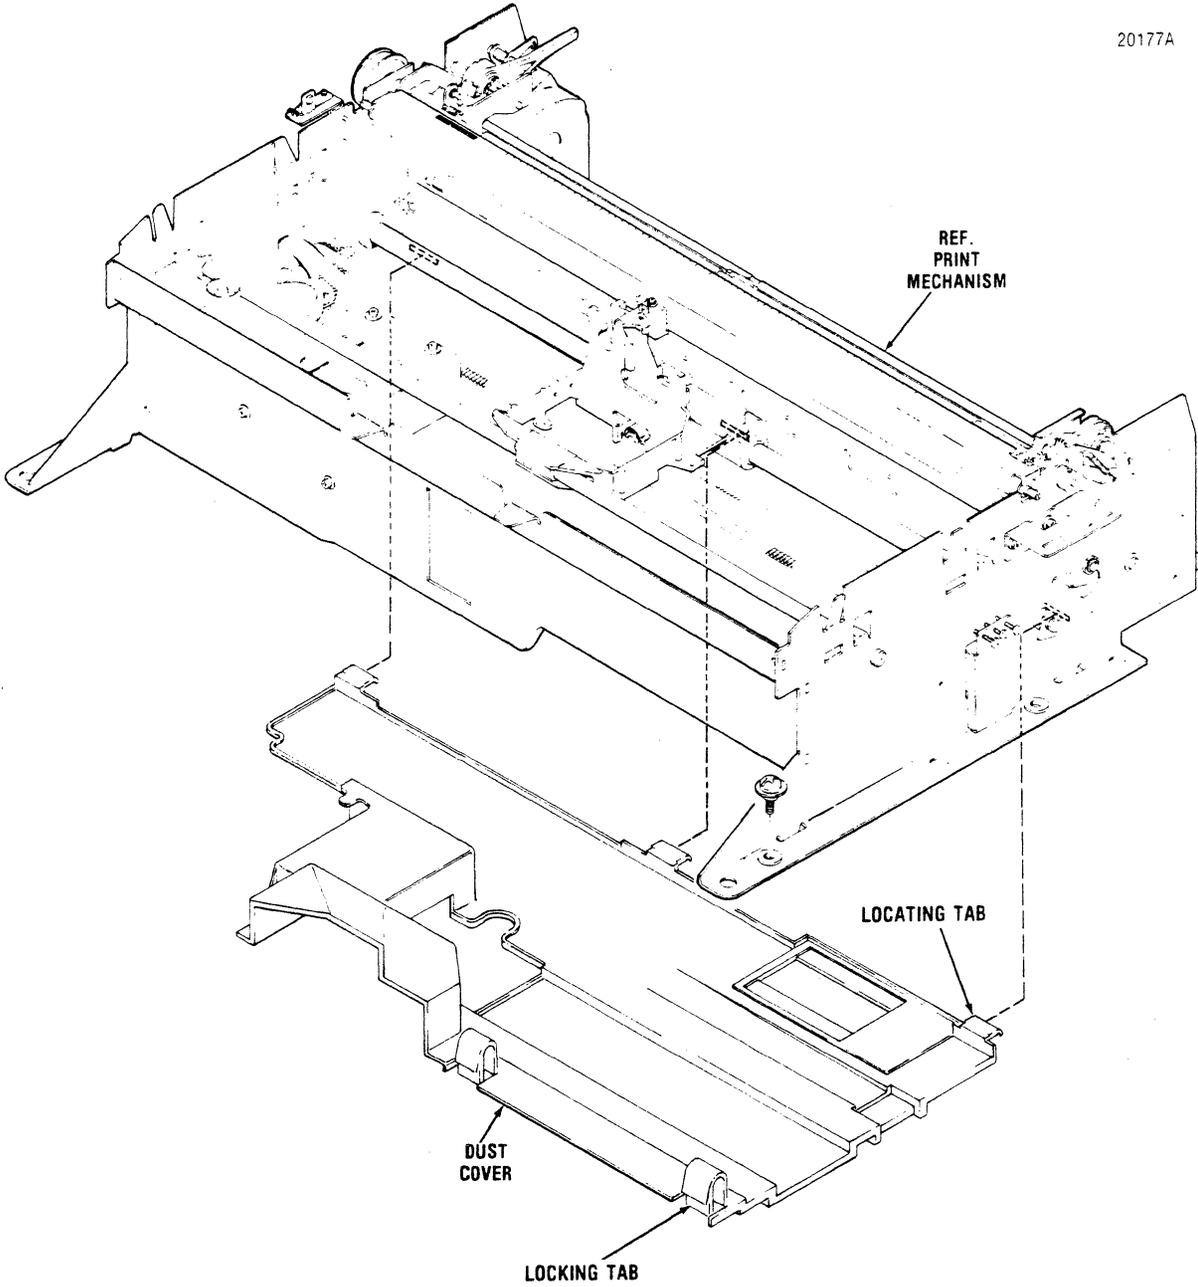

Figure 3-8 Removal/Replacement, Dust Cover
The dust cover, item 1 of Figure 3-8, attaches to the bottom of the printer mechanism and protects the Print Controller and CPU pcb's. To remove the dust cover, refer to Figure 3-8 and perform the following steps: